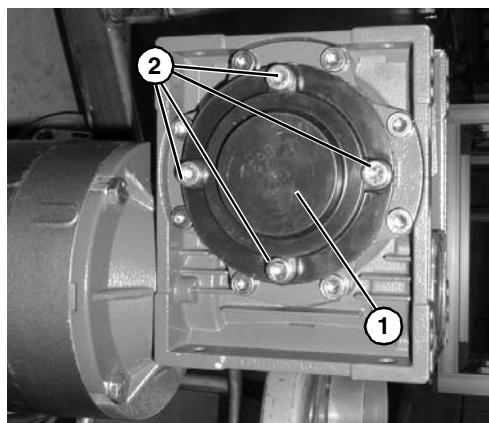

Figure 17
4. Install cover (**Figure 17, item 1**) with four (4) screws (**Figure 17, item 2**).